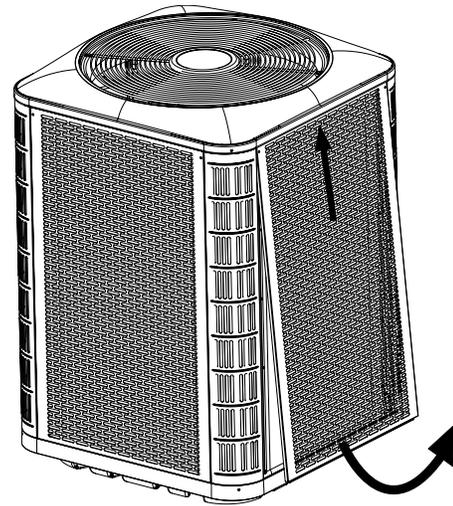
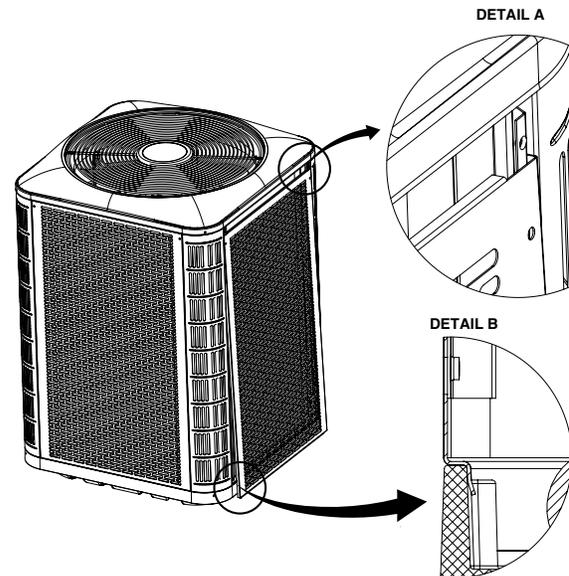

Figure 6. Panel Removal
Figure 7. Panel Installation
- To access the internal components of the unit, refer to Figure 6 for panel removal and Figure 7 for panel installation.
2. Slide the panel up towards the top pan in order to clear the bottom flange from the base pan. See Figure 6 (page 8).
1. Insert the top corners of side panel flanges into the corner post channels as shown in Detail A in Figure 7 (page 8).